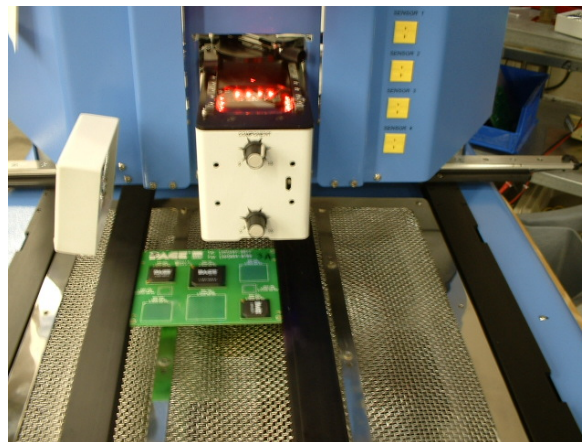

Figure 17
- vii. Mouse click on the green button. (Figure 17)